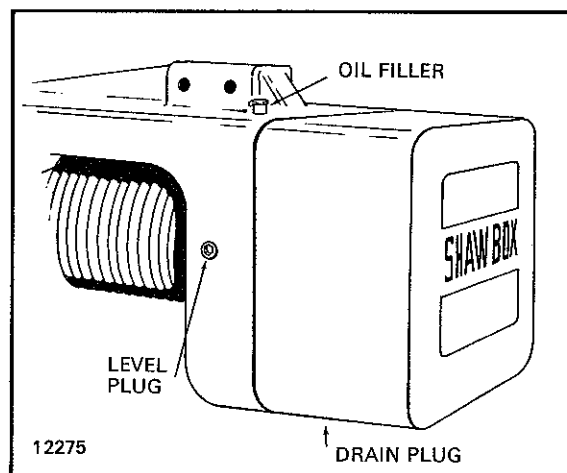

Figure 4-1. View showing location of Oil Filler Oil Level Plug and Oil Drain Plug.
a. Check Oil Level and Grease Fittings. The gearcase has been filled with oil to proper level and the lower block sheave bearing has been lubricated at the factory. However, this should be checked before operating hoist. Remove and discard felt shipping plug from oil filler at top of hoist. Refer to Figure 4-1. Check oil level by removing oil plug at side of hoist. With hoist in level position, level of oil should be even with bottom of tapped hole. If not, add oil as specified in Section IV. Grease fitting in lower block sheave pin should show evidence of grease.
4-2. **CHANGE GEARCASE OIL.** (Figure 4-1, Page 7)